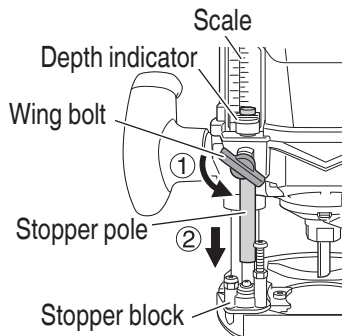

Fig. 14
- (1) Place the tool on a flat wood surface.
- (2) Loosen wing bolt allowing the stopper pole to contact with stopper block. (**Fig. 14**)